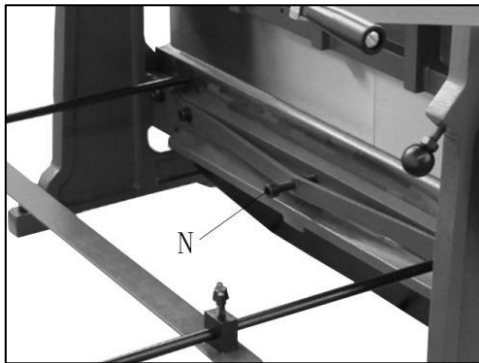

Figure 9
4. If the shear cuts the paper on the ends, but not the center, slightly turn screw (N, Figure 9) clockwise until paper is cut the entire length.